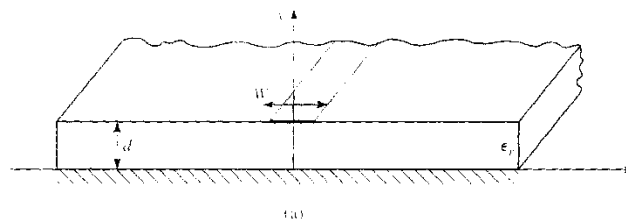

Figure 1: Microstrip TL.
In terms of physical characteristics, the microstrip TL is specified by the line width (W), substrate height (d) and the material of a substrate (dielectric constant or permittivity ϵ_r) as shown in Fig.1. To model a microstrip TL circuit, you need to obtain (1) signal velocity (phase velocity) on a microstrip TL and (2) characteristic impedance in terms of W , d and ϵ_r . In many cases, however, you want to find the width W for a given characteristic impedance (Z_0).